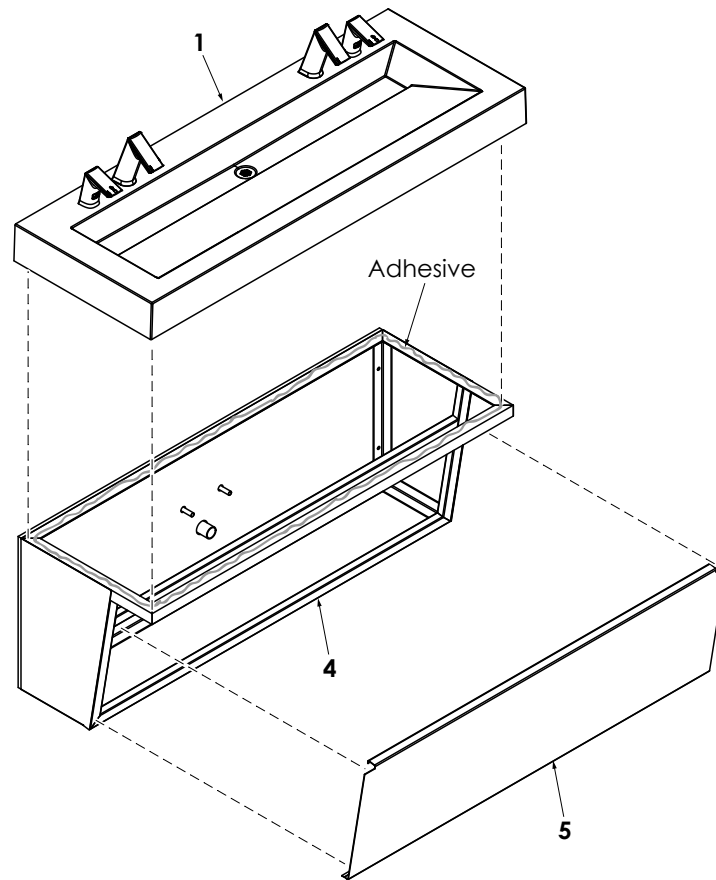

Figure 14
7. Install Deck (1, Figure 14) onto Enclosure (4).